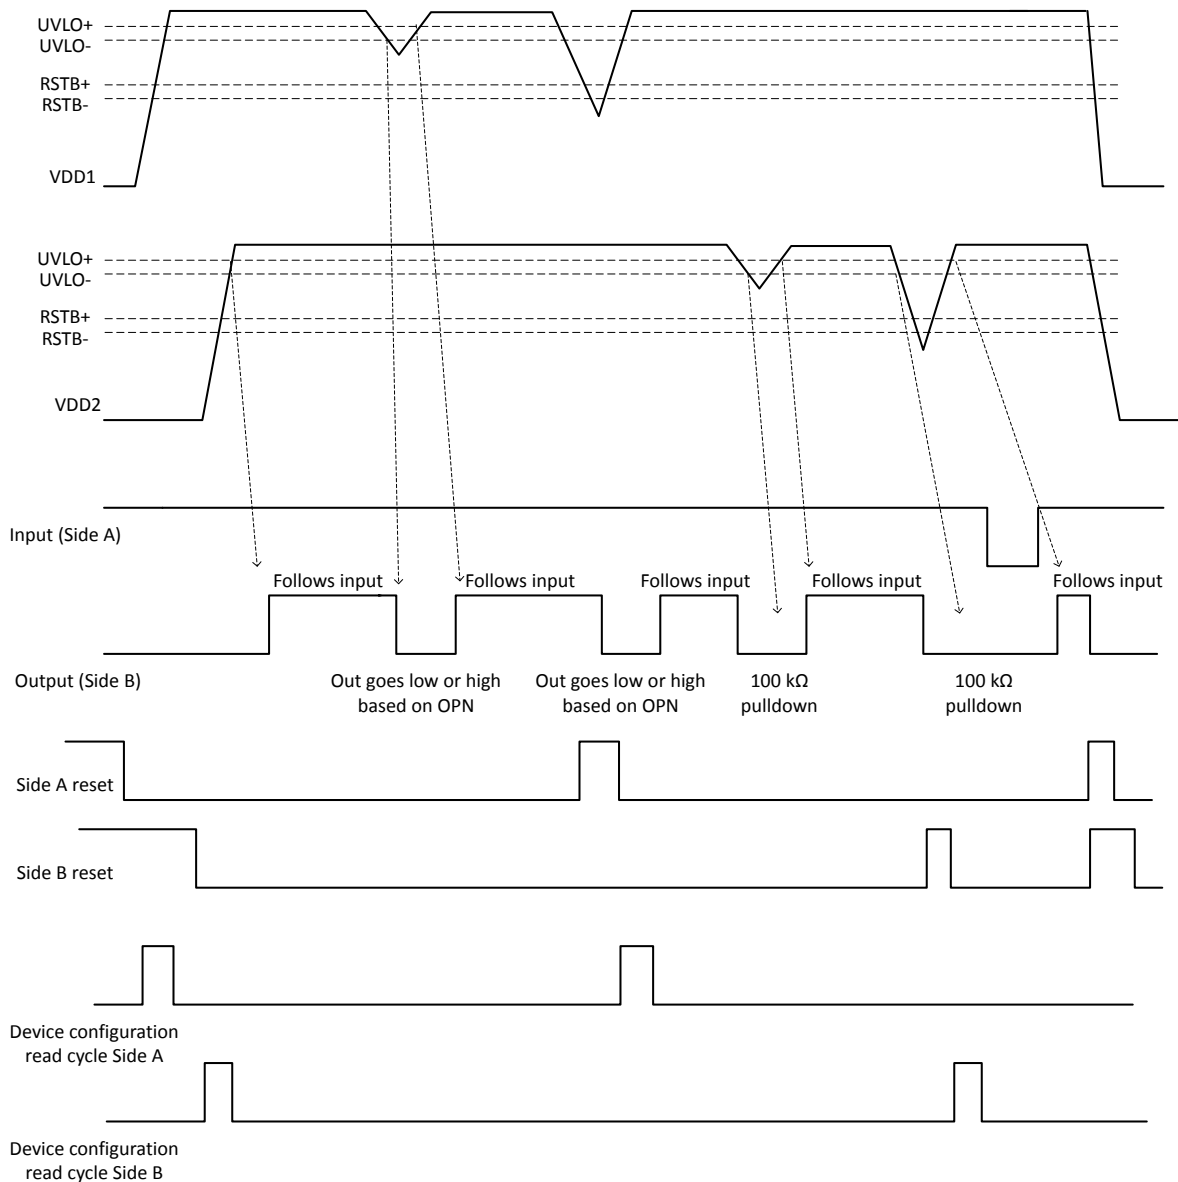

Figure 3.1. Device Behavior during Startup
Device behavior during start-up, normal operation, and shutdown is shown in Figure 3.1 Device Behavior during Startup on page 10, where UVLO+ and UVLO– are the respective positive-going and negative-going thresholds. Refer to the following tables to determine outputs when power supply (VDD) is not present and for logic conditions when enable pins are used.
4. “Powered” state (P) is defined as 2.25 V < VDD < 5.5 V.
5. “Unpowered” state (UP) is defined as VDD < 2.25V.
7. UD =Undetermined. Refer to Figure 3.1 Device Behavior during Startup on page 10, the start-up time from unpowered state, below 1.7 V (RSTB) threshold to powered state, is 0.3 ms. If VDDO only dips below 2.1 V (VDDOK level in Figure 3.1) but stays above RSTB level, the start-up time is 1 μs.
3. “Powered” state (P) is defined as 2.25 V < VDD < 5.5 V.
4. “Unpowered” state (UP) is defined as VDD < 2.25 V.
5. UD = Undetermined. Refer to Figure 3.1 Device Behavior during Startup on page 10, the start-up time from unpowered state, below 1.7 V (RSTB) threshold to powered state, is 0.3 ms. If VDDO only dips below 2.1 V (VDDOK level in Figure 3.1) but stays above RSTB level, the start-up time is 1 μs.